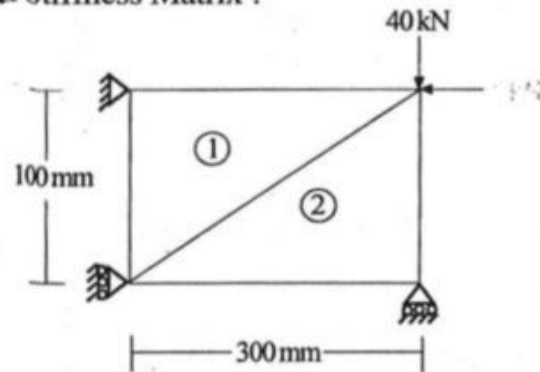

Fig. Q. 9
9. For the two dimensional element shown in fig.Q.9, assemble Global Stiffness Matrix :